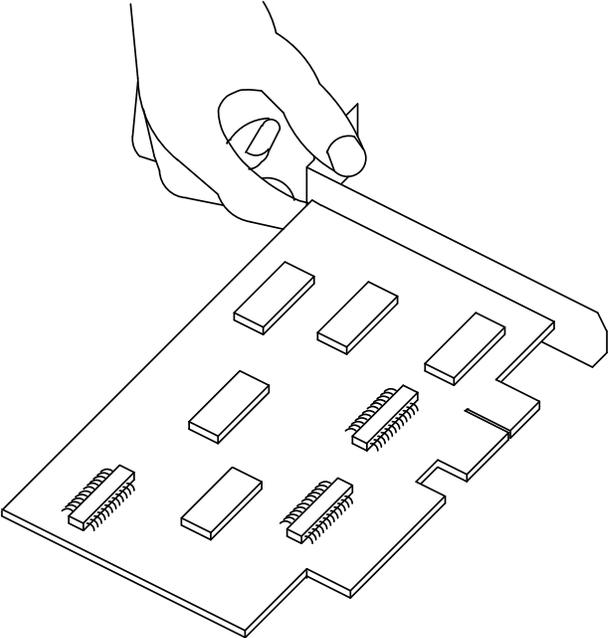

Figure 1-1. How to Hold a Short Circuit Card
- Hold a short circuit card by the faceplate only. See Figure 1-1.